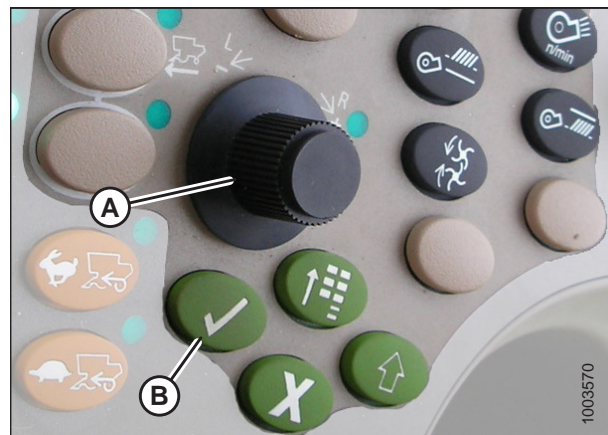

Figure 3.279: John Deere Combine Control Console
7. Select HEADER in box (A) by scrolling down to box using scroll knob, and then pressing check mark button (knob and button are shown in Figure 3.279, page 176).
8. Scroll down to lower right icon that resembles an arrow in a diamond (B) and press check mark button to select it.